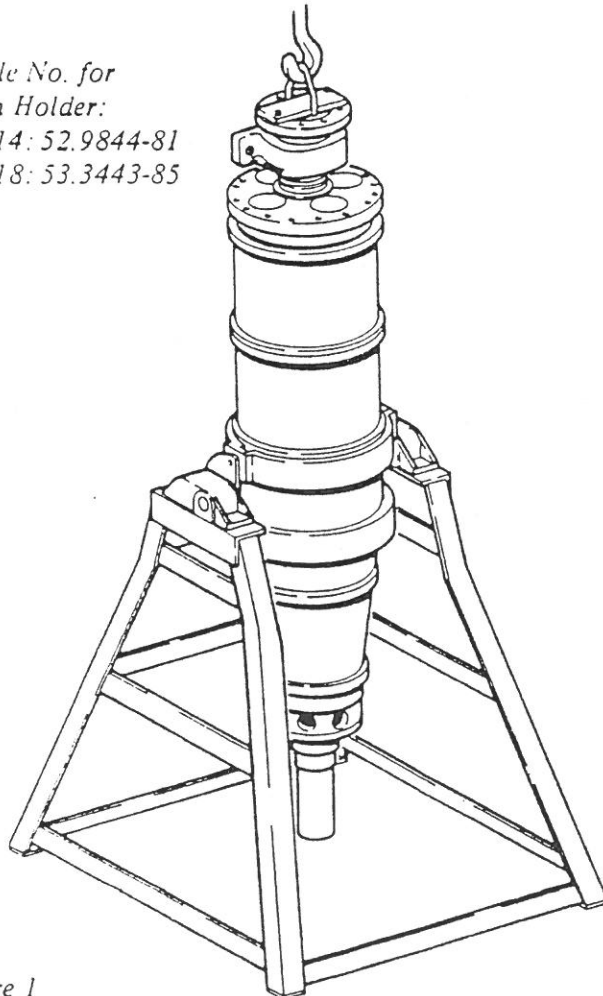

Figure 1
1. To facilitate work, place the drum in a drum-holder. Remove the 16 screws (29) holding end piece to drum. Back the end piece off the drum, using the four screw plugs(28) as jackscrews. With drum in vertical position, the end piece can be lifted with the lifting tool(53.3401-80) - see figure 1.